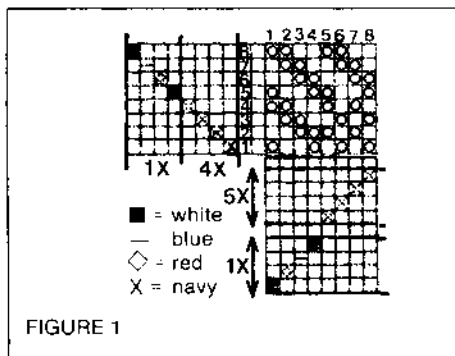

FIGURE 1
**Threading, tie-up, and treadling:** Plain weave and twill blocks. See Fig. 1.